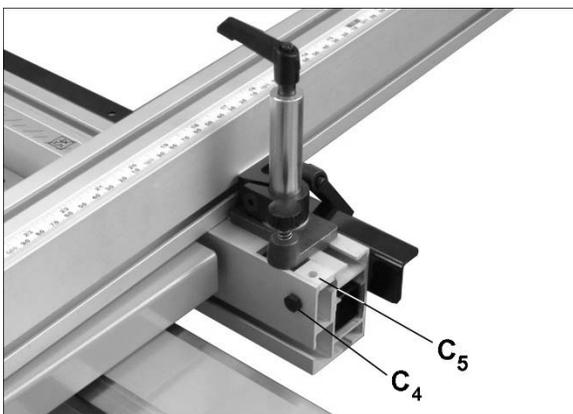

Figure 8-10
6. Loosen screw (C4, Figure 8-10) and slide rear stop block (C5) until index pin can engage its hole.